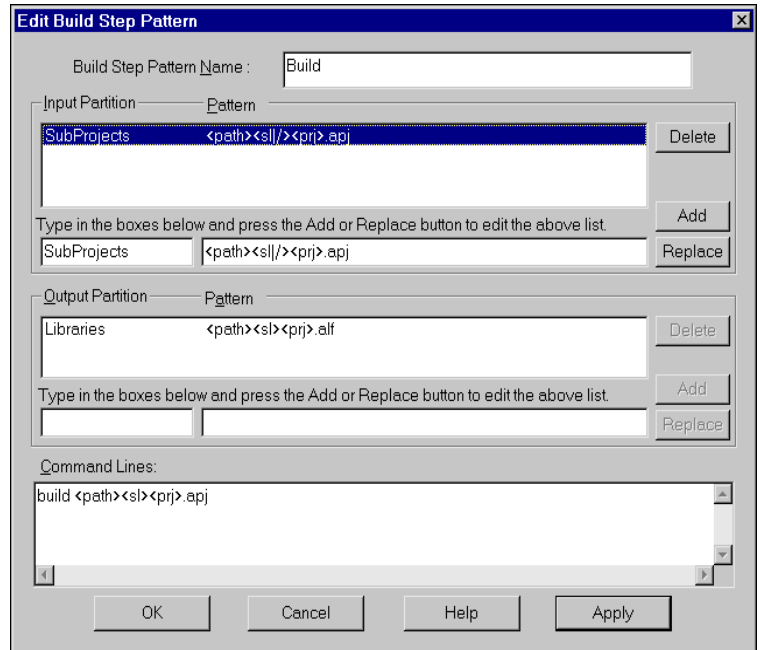

Figure 2-24 Edit Build Step Pattern dialog
2. Click **Edit**. The Build Step Pattern dialog is displayed (Figure 2-24 on page 2-51).